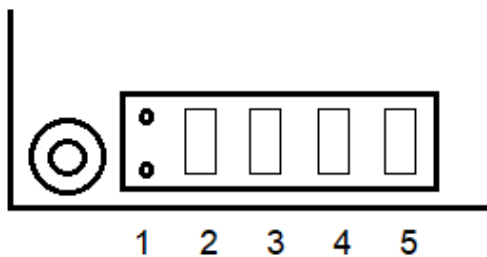
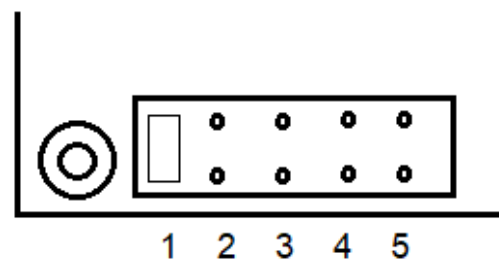

Figure 1
Figure 2
2. For link supervising module, set the jumpers as illustrated in Figure 1. For link terminating module without ground fault detection, set the jumpers as illustrated in Figure 2.